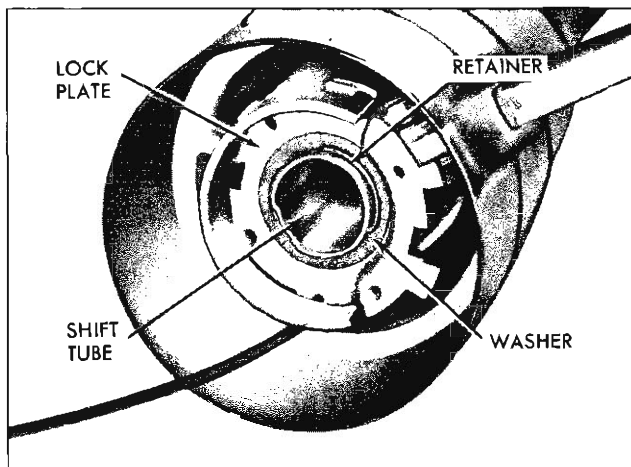

Fig. 32—Lock Plate Installed
3. Install the selector lever support housing on the mast jacket, place the wave washer over the mast jacket and slide the lock plate into position so the tang on the locking plate engages the slot in the mast jacket (fig. 32).